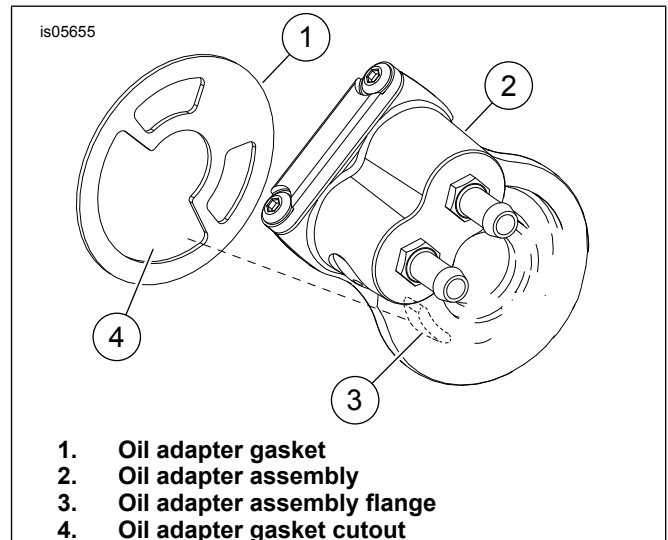

Figure 2. Oil Adapter Assembly Alignment
2. See Figure 2. Align flange (3) so it is installed into oil adapter gasket cutout (4).